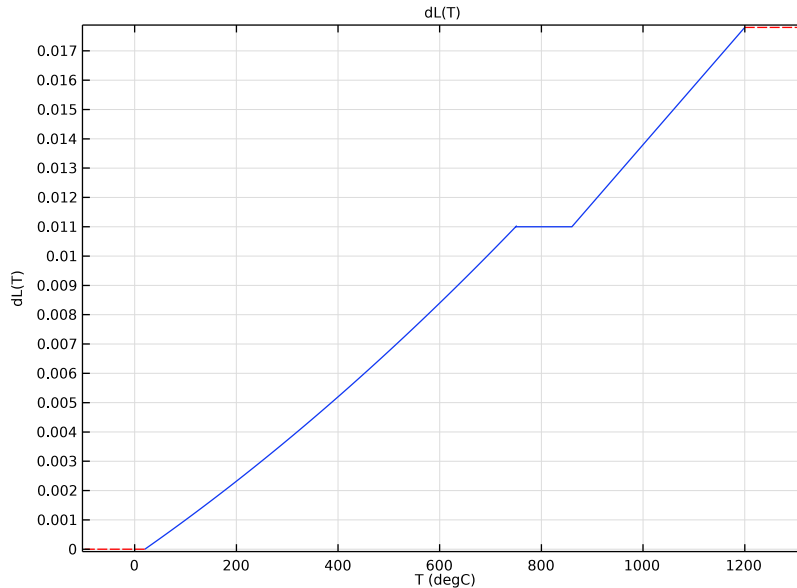

Figure 1: Temperature dependent thermal strain function.
The modeled geometry is a cube with side length of 100 mm. The temperature in the block is homogeneous and prescribed. The thermal strain function dL (Figure 1) is given in (Ref. 2).
- 7 Click  **Plot**. Compare with Figure 1.